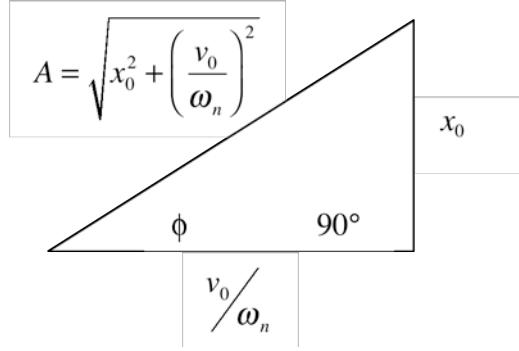

Figure 1.6
- 1.10** Using Figure 1.6, verify that equation (1.10) satisfies the initial velocity condition.